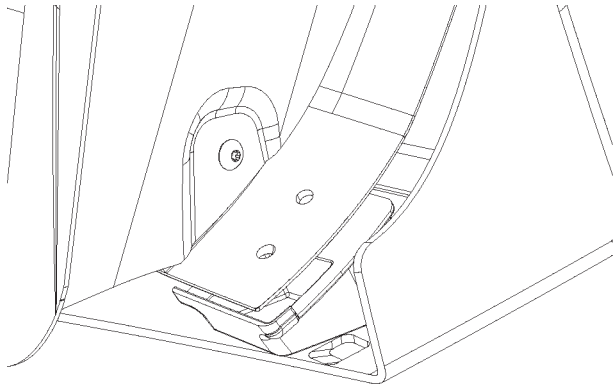

FIGURE 17
28. Insert wheel well bracket between fascia and diffuser. Refer to figure 17.